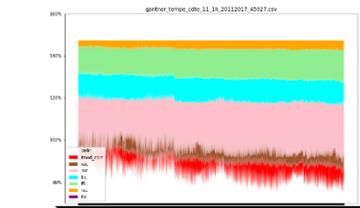

Fig 3
10. Plot stack losses from 1/FF down to PRdc vs. time (Fig 3)